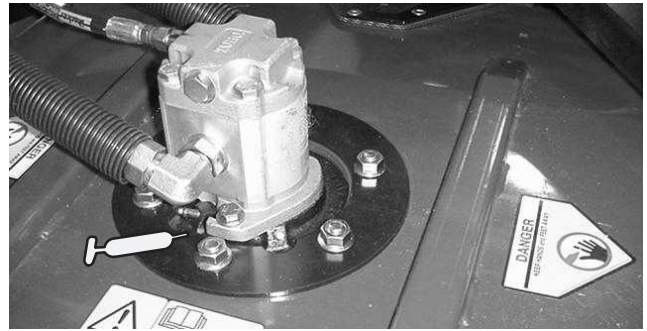

Figure 33
- Cutting unit spindle shaft bearings (1 per cutting unit) (Fig. 33)